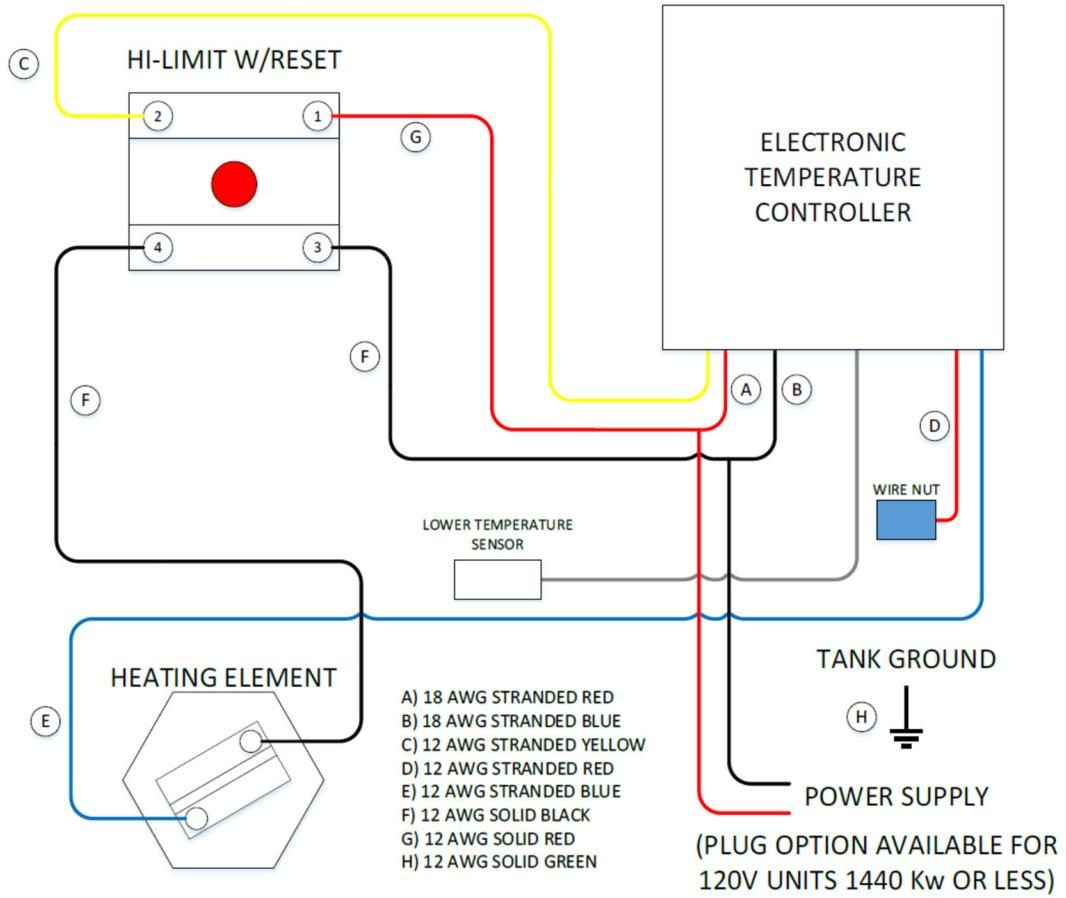

Figure 8 – Wiring diagram
2. Connect these power leads to wires enclosed in junction box with wire nuts. Refer to Figure 8 before wiring.